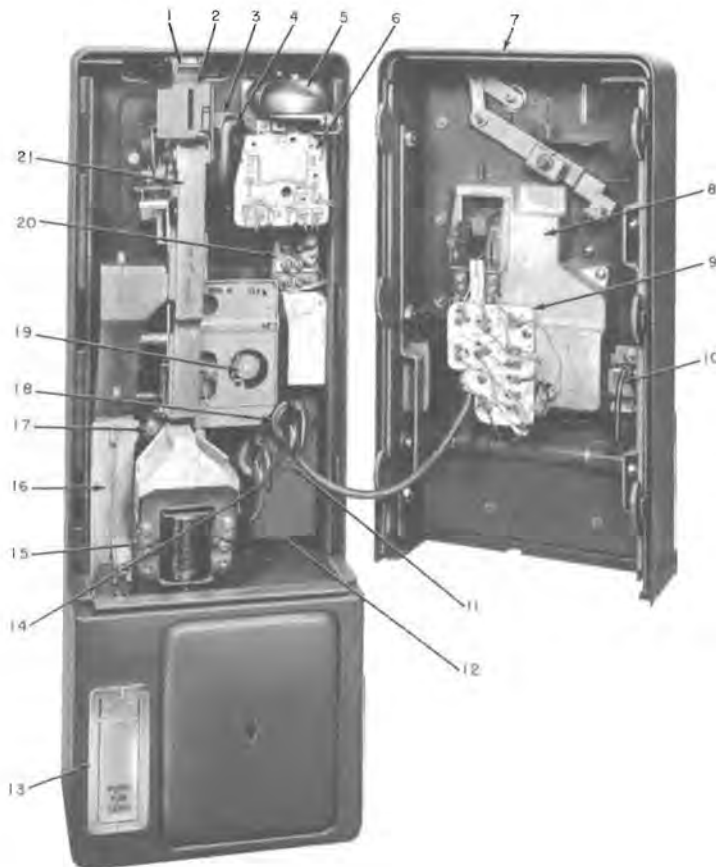

Fig. 7—Assembly of Parts (1A-Type)
- (1) Unlock 29A lock.
- (2) Release locking mechanism with 719A tool by turning tool 1/8-turn counterclockwise.
- (3) Pull cover forward about 3 inches to gain access to plug P1.
- (4) Disconnect plug P1 (Fig. 7) by pulling straight out as cover is carefully lifted off.
- (1) Disconnect plug P2 (Fig. 7 and 8).
- (2) Release chute locking lever.
- (3) Lift spring out of groove in chute.
- (4) Tilt top of chute forward and lift out.